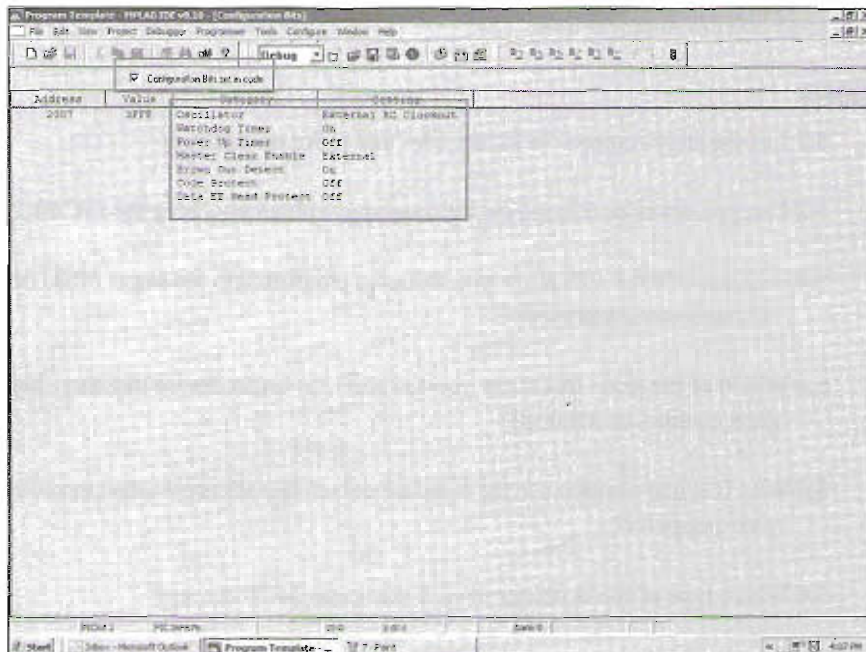

Figure 5-9 — Make sure that the check box labeled “CONFIGURATION BITS SET IN CODE” is checked.
Step 6. Return to the menu bar and click: **CONFIGURE/CONFIGURATION BITS** (Figure 5-8). The selection screen that allows you to configure selected set-up bits for the MCU is displayed (Figure 5-9). Just make sure that the check box labeled